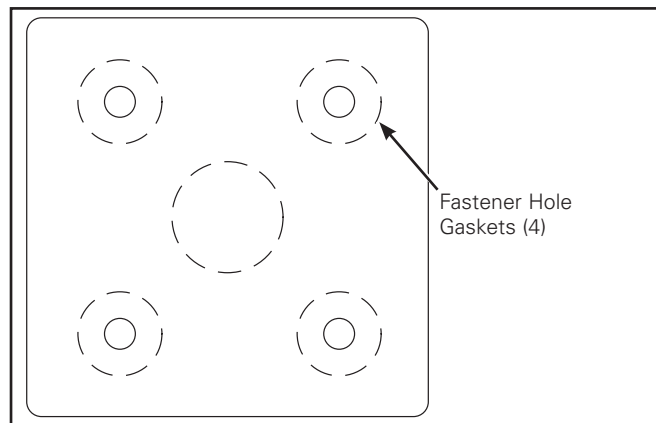

Figure 2.
5. Attach the mounting gaskets to the fastener holes and the remaining square gasket to the center where the J-Box meets the casting (Figure 2.).